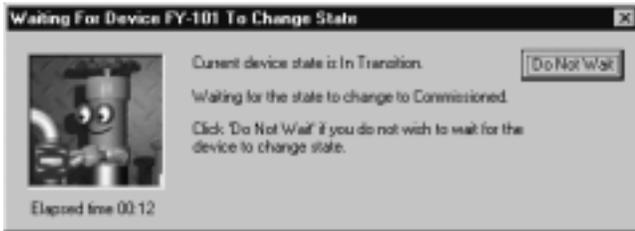

Figure G-13. Device Commissioning Wizard—Waiting Window
7. Select Finish. The window shown in figure G-13 appears informing you that DeltaV is waiting for the device to change from a decommissioned (FY-101) to a commissioned (FY-101) state. This process may take several minutes. Once the DeltaV finishes commissioning the device, the icon in DeltaV Explorer changes from non-commissioned to commissioned.